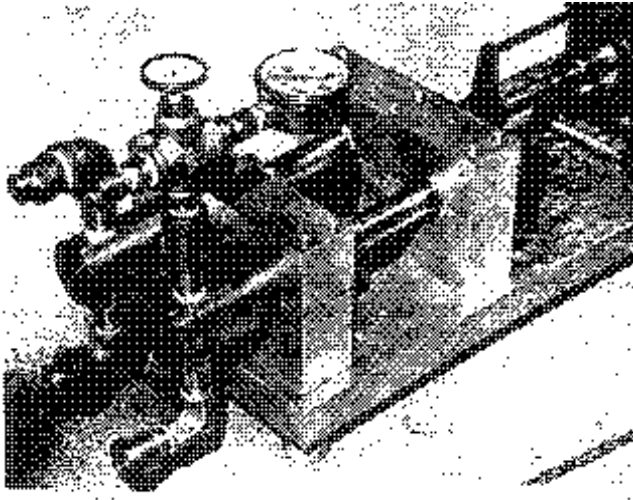

Figure 3-3. Equal-volume system
d. Equal-volume method. A variation of the two-tank procedure is the equal-volume method (Figure 3-3). In this method, identical pumps are attached to each tank and are operated from a common drive. The components in each tank are mixed at twice the design concentration. The equal-volume system offers the advantage that mistakes in setting metering pumps cannot occur and the concentration of the two grout components can be tailored by the manufacturer.